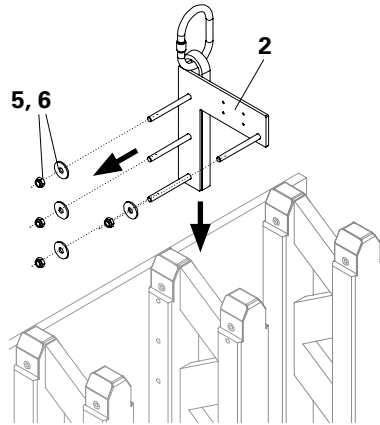

Fig. 5
1. Remove the four Hex. Nuts (5), SW 16, and Washers (6) from the Crane Eye 24.
2. From the outside of the lattice girder, insert Crane Eye 24 in the four drilled holes of the chord. (Fig. 5)